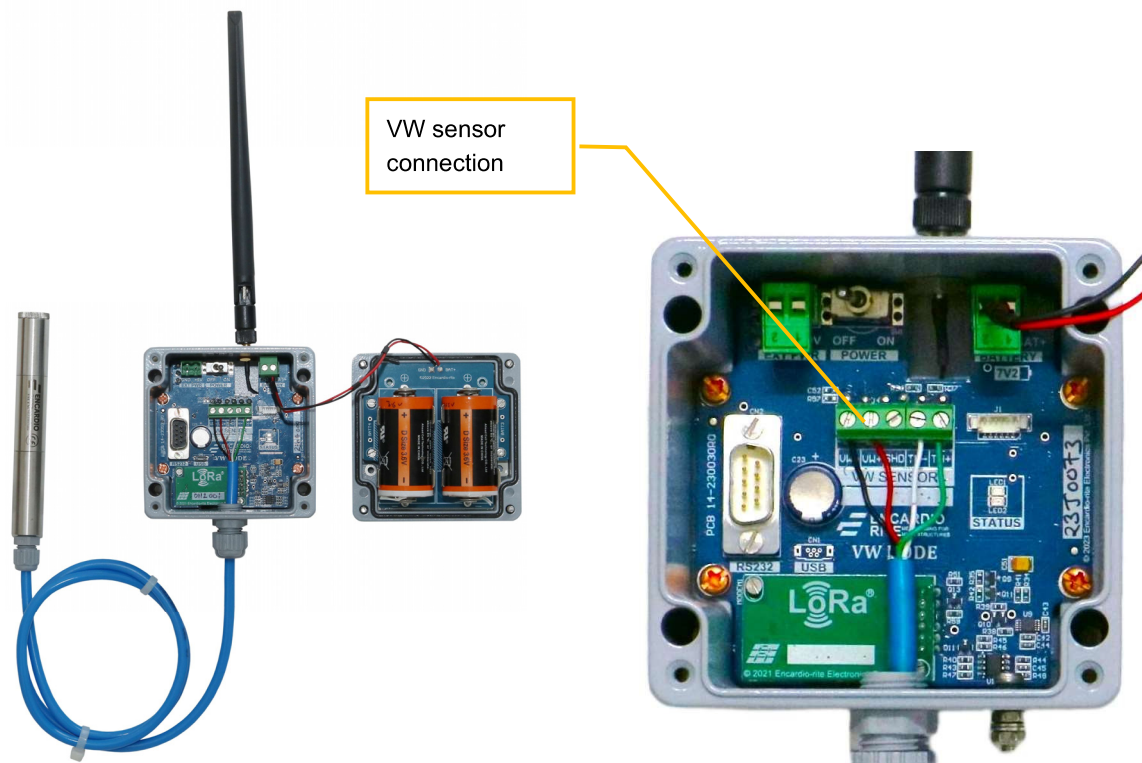

Figure 5-3 VW sensor connection to single channel VW node (Solo)
- Connect the vibrating wire sensor cable to the designated Connector in Node as shown in Figure 5-3: VW+, VW-, SHD, T+, T-